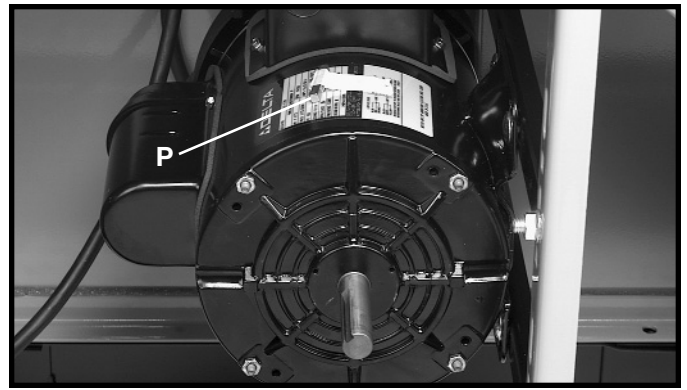
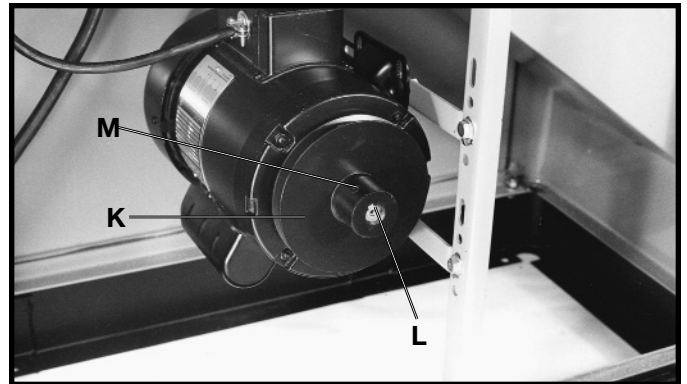

Fig. 7A
Fig. 7
Assemble motor pulley (K) Fig. 7A, to motor shaft with the hub of the pulley in the outer position as shown. Make certain key (L) is inserted in the keyway of the pulley and motor shaft, then tighten set screw (M) using the 2.5 mm hex wrench (not shown). **NOTE: THE KEY (P) FIG. 7, FOR THE MOTOR PULLEY, IS TAPED TO THE MOTOR HOUSING.**